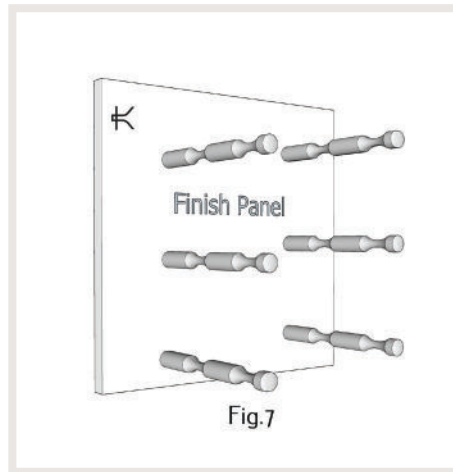

Fig.7
11. Thread and hand tighten the rest of the wine hardware according to design. **\*Fig7**